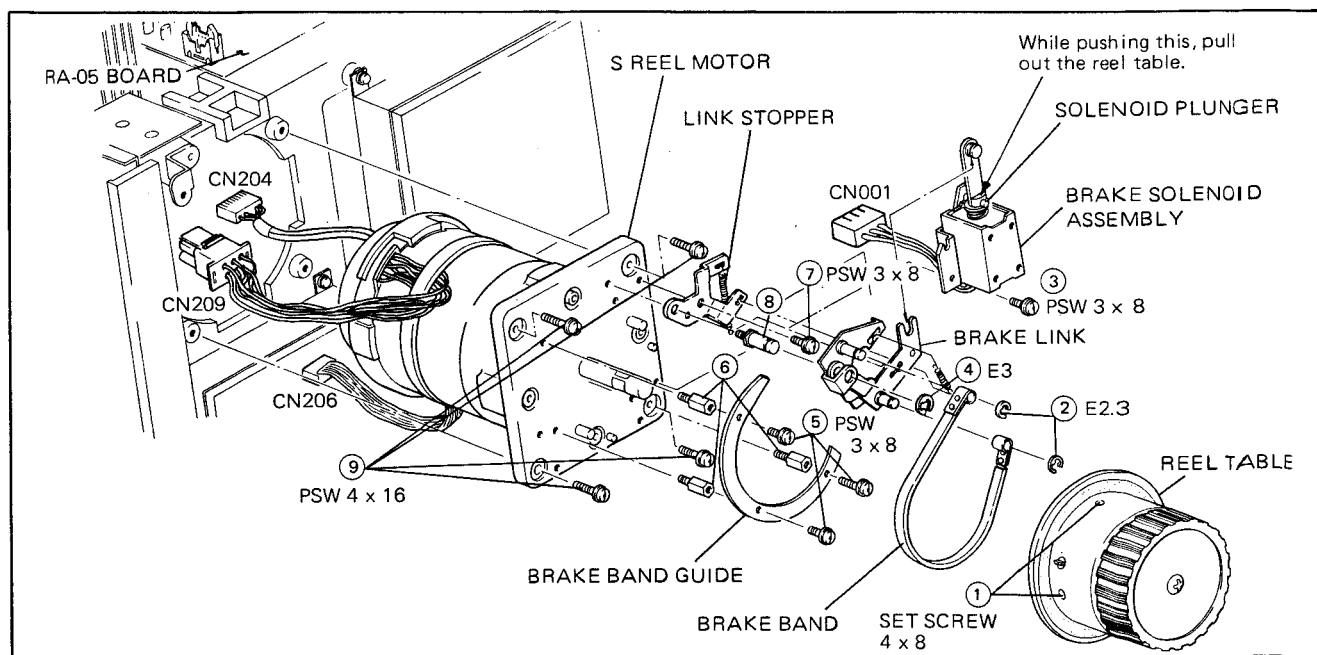
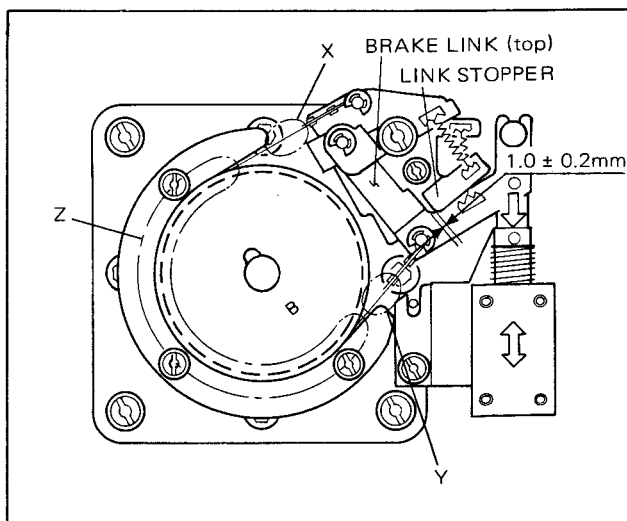

Fig. 3-17. Replacement of the S Reel Motor
Fig. 3-19. Link Stopper/Brake Solenoid Position Adjustment
3. Loosen the two set screws ① shown in Fig. 3-17. While pushing the solenoid plunger by hand, pull out the reel table.
4. Remove the two E rings ②, and remove the brake band.
5. Remove the screw ③, and remove the brake solenoid assembly.
6. Remove each one end of the two springs applied between link stopper and brake links. Remove the E ring ④, and remove the brake links.
7. Remove the three screws ⑤, and remove the brake band guide.
8. Remove the three brake band posts ⑥.
9. Remove the set screw ⑦ and the brake post ⑧ securing the link stopper.
10. Remove the four screws ⑨, and remove the S reel motor.
18. Place the brake link onto the brake post and fix it with E-3 ring ④ (see Fig. 3-17).
20. Lightly fix the brake solenoid assembly with the screw ③.
22. Do not push the plunger and adjust the position of the link stopper so that the clearance between the link stopper and the brake link (top) is the value shown in Fig. 3-19.
23. When the plunger has been pressed, adjust the position of the brake solenoid so that the brake band is not transformed at the "X" and "Y" locations shown in Fig. 3-19, and the clearance between the brake adjustment fixture and the brake band is 0.2 mm or more all along the "Z" location. After the adjustment, fix the brake solenoid with a PSW3×8 screw.